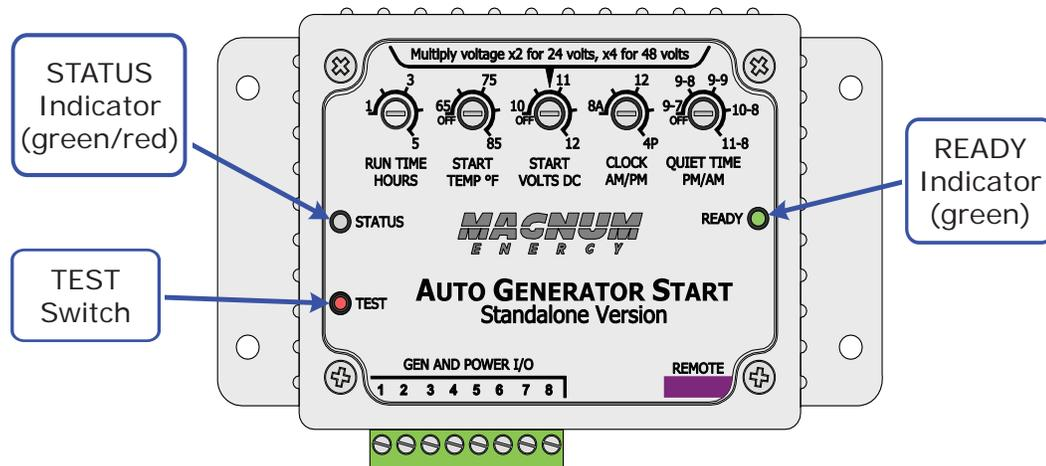

Figure 4-1, Controller Front Panel Controls and Indicators
- a) the red *TEST* switch (on the Controller – see Figure 4-1); or
The front of the controller (Figure 4-1) provides a pushbutton to test the AGS system operation, and two LED indicators for viewing system operation.